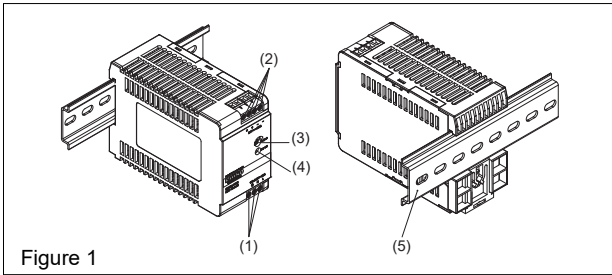
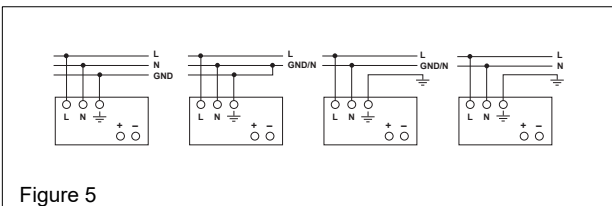

Figure 1
Figure 5
## 2. Device description (Fig. 1)
### 5.1. Input connection (Fig. 1, Fig. 5)
Use L, N and GND connections of input terminal connector (see Fig. 1 (1)) to establish the 100-240 VAC connection. Typical connection methods are shown in Figure 5.
### 5.2. Output connection (Fig. 1 (2))
Use the "+" and "-" screw connections to establish the 24VDC connection. The output provides 24VDC. The output voltage can be adjusted from 22 to 24 VDC on the potentiometer. The green LED DC OK displays correct function of the output (Fig. 1 (4)). The device has a short circuit and overload protection and an overvoltage protection limited to 30-34.8 VDC.